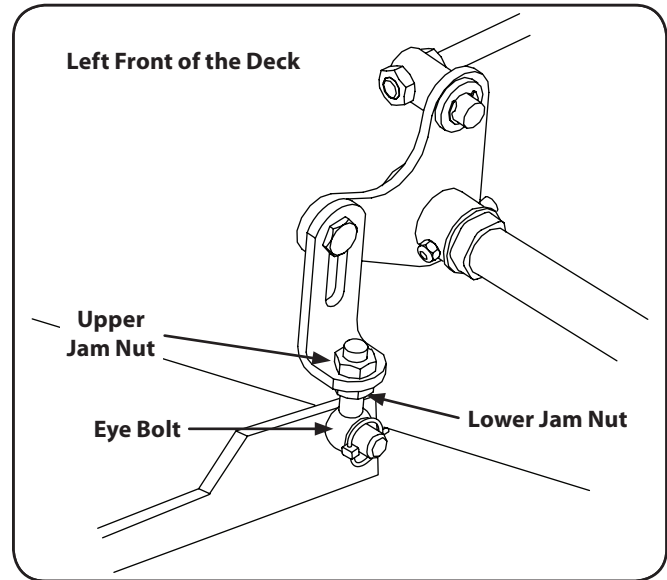

Figure 6-5
5. The right front blade tip height is fixed so you must adjust the left front tip to match it. See Fig. 6-5.